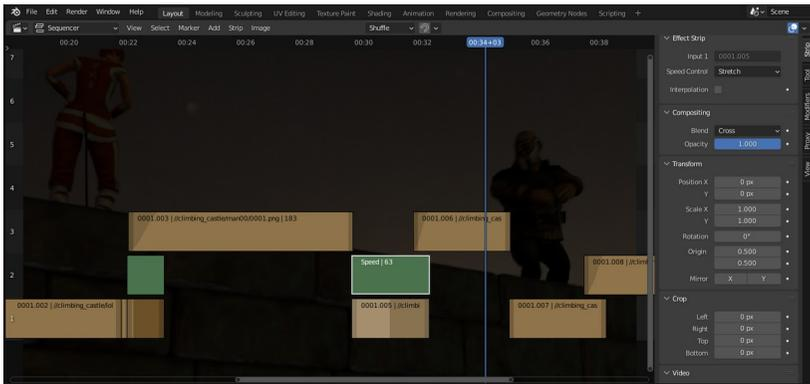

Figure 12-10 The Video Sequencer
9. When you have all the footage you need, create your final masterpiece using the Video Sequencer as shown in Figure 12-10. There are many controls available here, and it's hard to do more than scratch the surface in this exercise, however two things may be useful. The first one you may want to use is the fade effect which you can control using the right Sidebar in the Compositing section. You can set keyframes for the Opacity in the same way you have used to animate other Blender values. The second one is to slow down a strip, or part of a strip. For this you need to click Add Effect Strip Speed Control from the area menu, again, there are many controls available in the Sidebar.